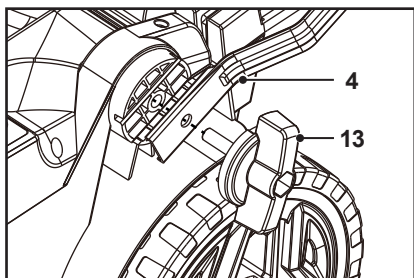

Fig. 1
1. Unscrew the lower bar locking bolt (13) from the sides of the main unit.
2. Align the mounting holes of the lower handle bar (4) and the side of the main unit, then pass the lower handle bar locking bolt (13) through the lower handle bar (4) onto the side of the main unit (Fig. 1). Rotate the lower handle bar locking bolt (13) clockwise until the lower handle bar (4) is securely attached (Fig. 1).